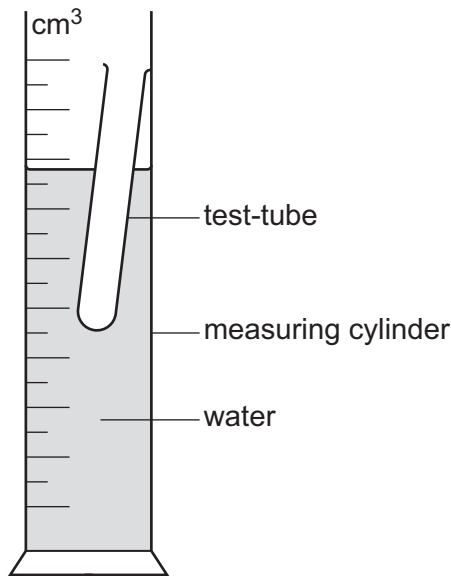

Fig. 6.1
- Slowly lower the test-tube into the measuring cylinder until it floats, approximately vertically, as shown in Fig. 6.1. The test-tube should **not** touch the bottom of the measuring cylinder.